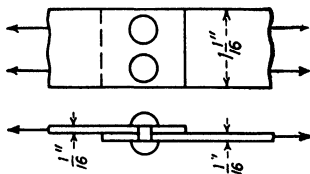

Fig. 323.—Lap joint, dural straps. Two $\frac{1}{8}$ in., 2S rivets, driven cold.
98. Find the strength in tension of the riveted strap shown in Fig. 323.
99. What is the strength in shear of the joint in Fig. 323?